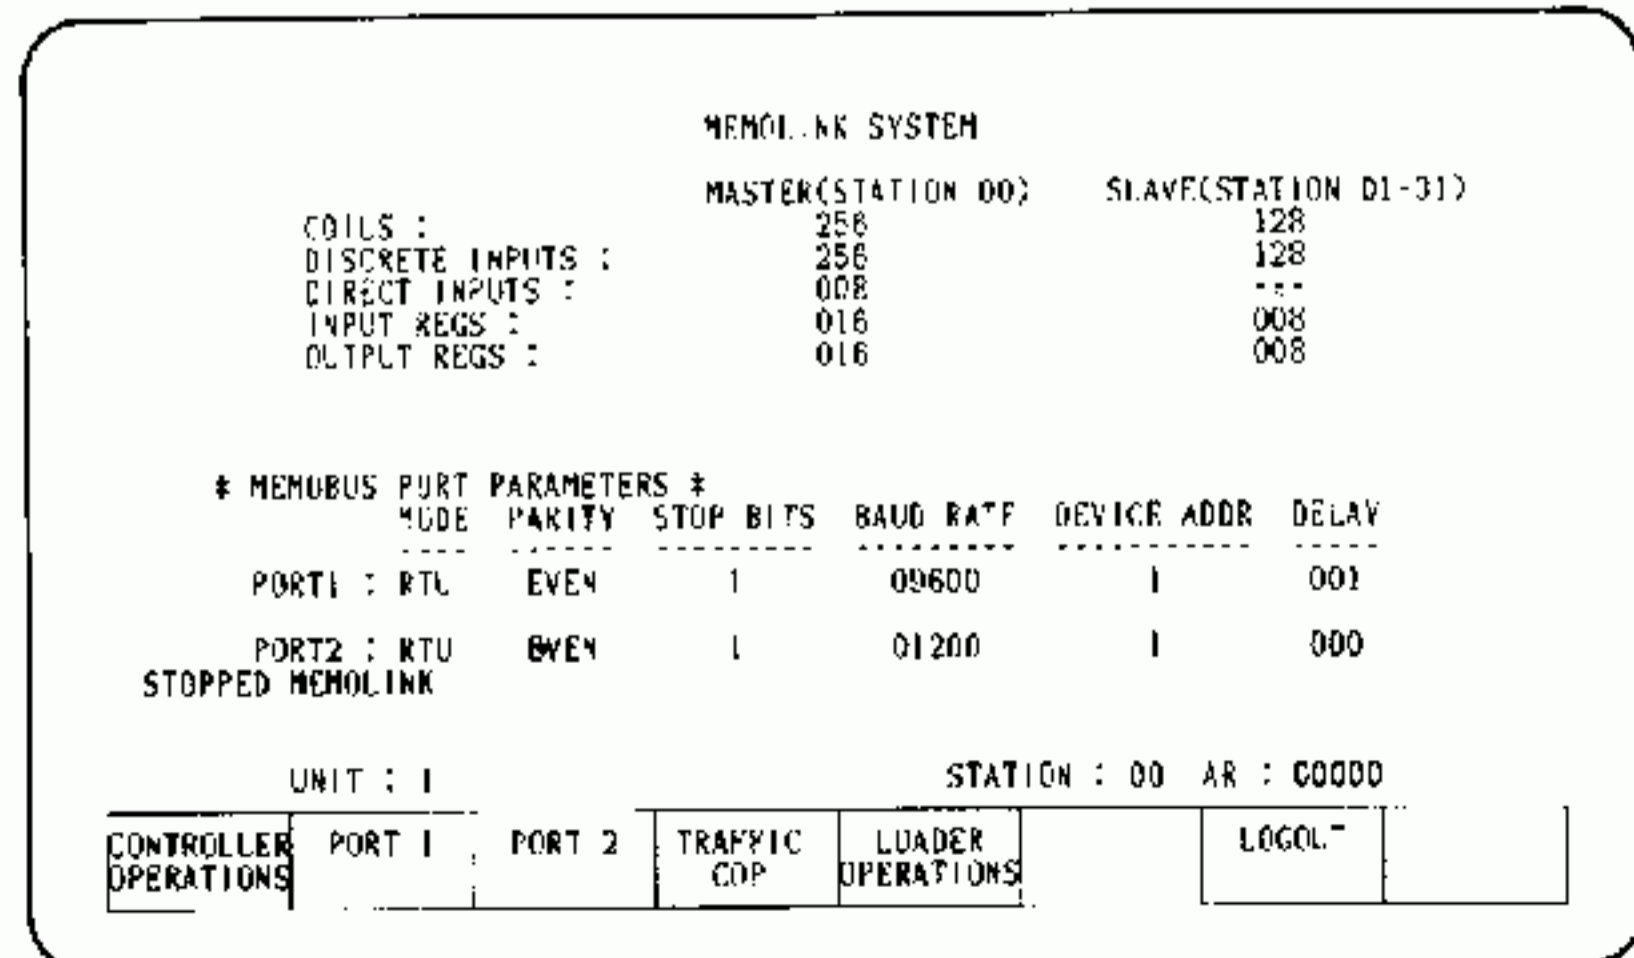

Fig. 5.1.4
3. When LOGOUT is depressed (see Fig. 5.1.4) or when the P190 key switch is set first to on and then off, the original state is restored (same as prior to installation).